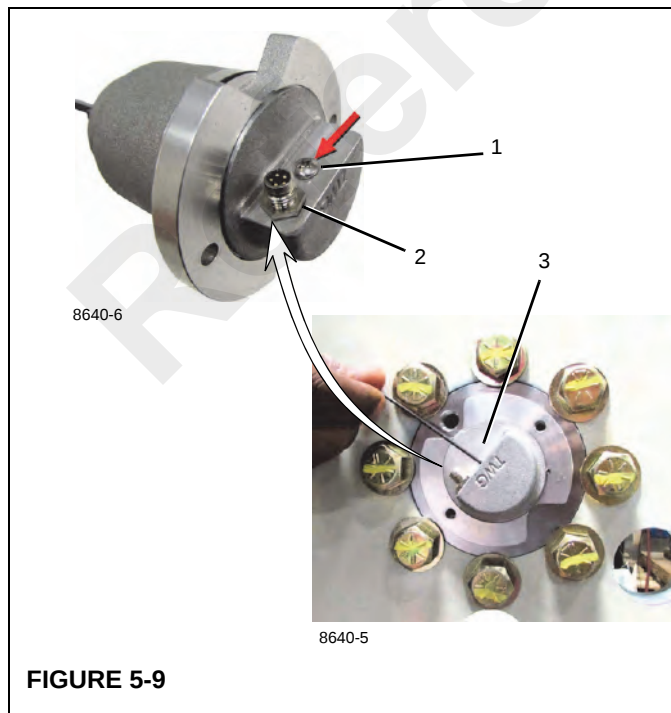

FIGURE 5-9
2. Remove power from the MWI by disconnecting the DRI cable (2, Figure 5-9).
3. Remove the sealed HMS programming button cover screw (1, Figure 5-9) on the DRI.
4. Push and gently hold the programming button (3, Figure 5-9) and return power to the MWI by reconnecting the DRI cable.
8. Replace the MWI/HMS programming screw (1, Figure 5-9).
NOTE: Failure to replace the programming screw (1, Figure 5-9) could effect the operation of the MWI.
3. Remove the programming button cover screw (1, Figure 5-9).